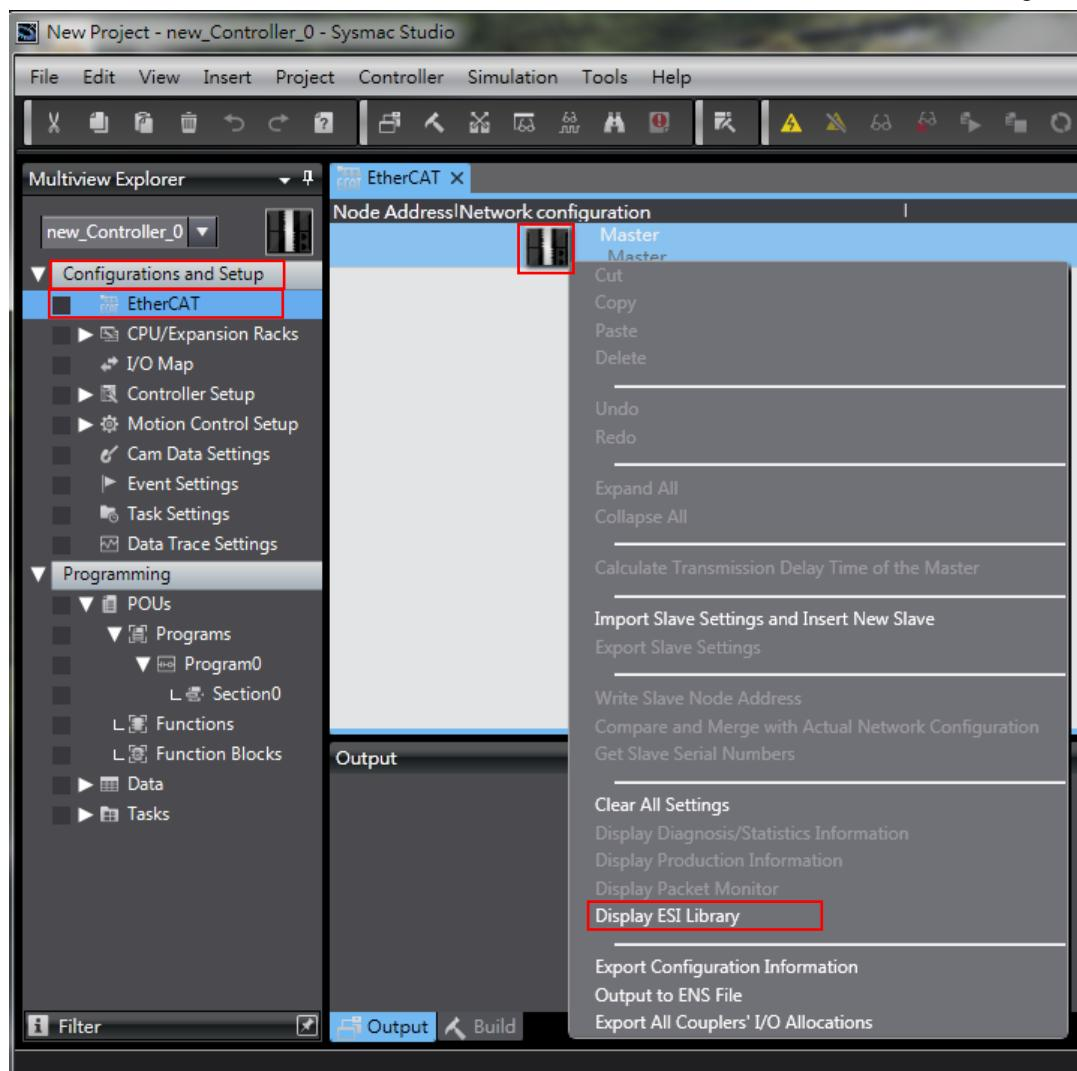

Fig. 5-35
- (2) Select “EtherCAT” in “Configurations and Setup” at the left side of Sysmac Studio main window, and click the left key of mouse twice to open “EtherCAT” page. Click the right key of mouse at the controller icon (), and select “Display ESI Library”, as shown in Fig. 5-35.